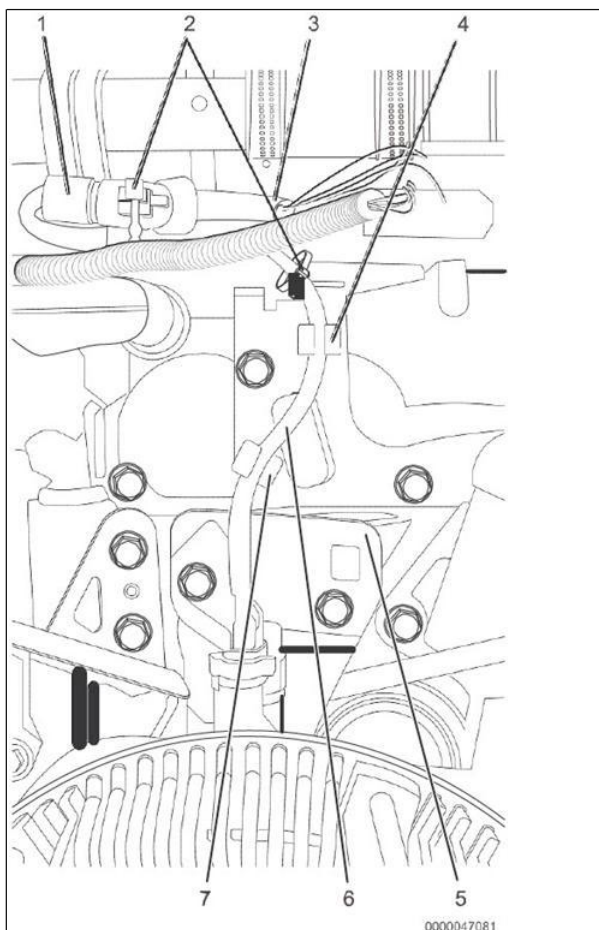

Figure 1. Fan Clutch Harness
5. Remove two tie straps (Figure 1, Item 2) securing fan clutch harness (Figure 1, Item 6) to engine harness (Figure 1, Item 3) and fan clutch harness bracket (Figure 1, Item 5). Discard tie straps.
6. Remove harness from upper and lower push pins (Figure 1, Items 4 and 7).
- a. If secured with two push pins, discard lower push pin (Figure 1, Item 7)
7. Inspect fan clutch harness (Figure 1, Item 6a) for signs of wear from contact with sharp or hard surfaces of harness bracket (Figure 1, Item 5).
8. Disconnect harness connector (Figure 1, Item 1).